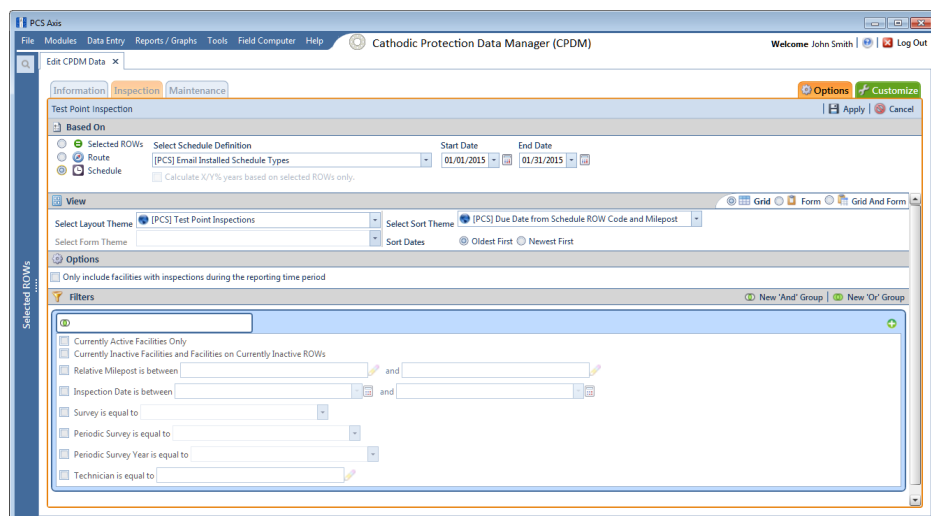

Figure 7-44. Based On Schedule
- 5 Click the **Based On** tab **Based On** and then select **Schedule** (Figure 7-44).
- 5 Click the **Options** tab  to open the options page and then select **Schedule** (Figure 7-44).